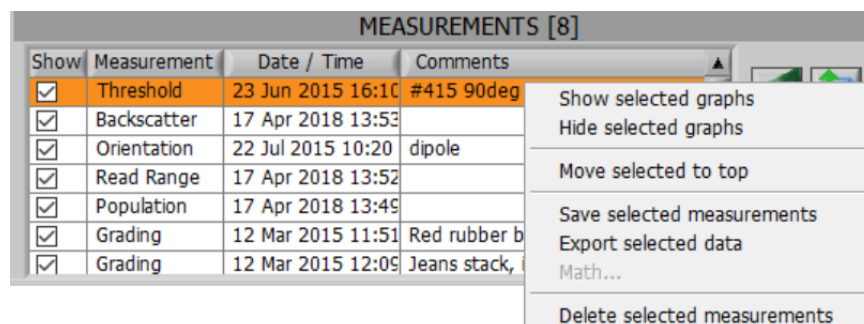

Figure 40.Measurement list, right-click menu
- **Right-click menu** – The right-click menu consists of functions for selected measurements. Functions are listed in Figure 40.